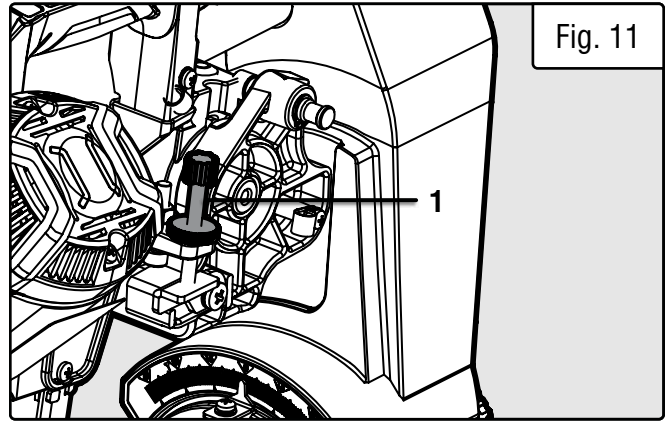

Fig. 11
2. Locate the depth stop settings on the right side of the saw (Fig. 11).
4. Loosen the depth stop knob (Fig. 11 - 1). **To increase depth**, turn the depth stop knob counterclockwise. **To decrease depth**, turn the depth stop knob clockwise.
**⚠ WARNING:** DO NOT adjust the depth stop screw. Only adjust the depth stop knob (Fig. 11 - 1). The depth stop screw is used to prevent the blade from cutting the table during normal cutting. DO NOT adjust the depth stop screw.